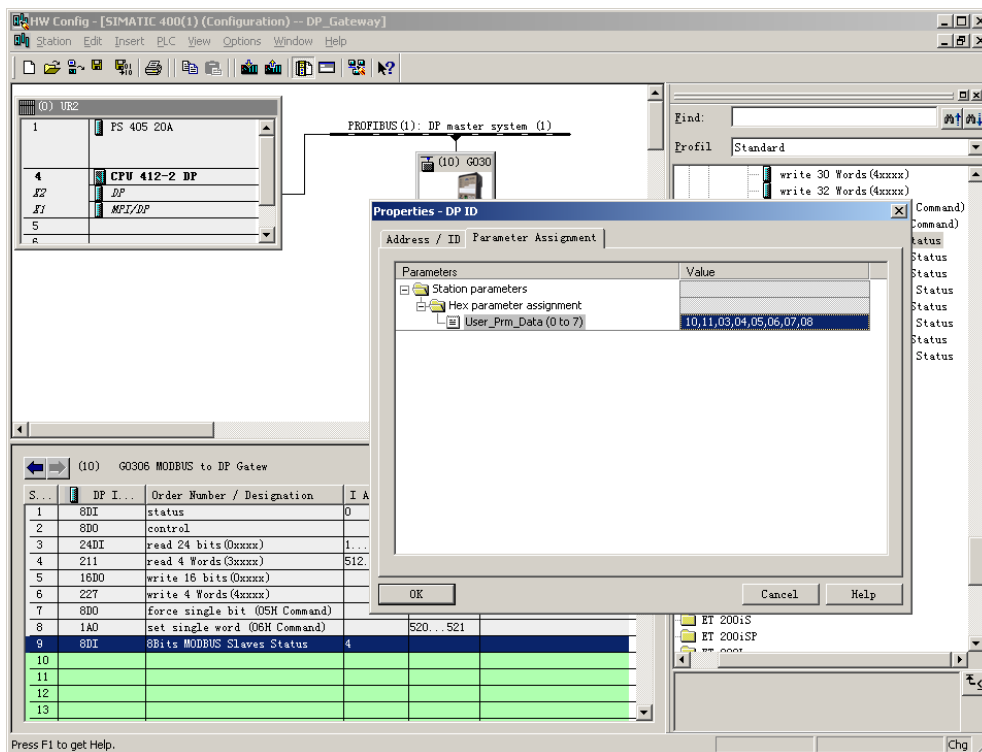

Figure 36 Configure Slave Address to Be Monitored
c) Configure user parameters of "8Bits MODBUS Slaves Status" module, shown in Figure 36:
As shown in Figure 36, each device corresponds to 1 byte module user parameter. In the previous example, total two slave stations (10, 11) is configured, so write the two addresses into the module user parameter.